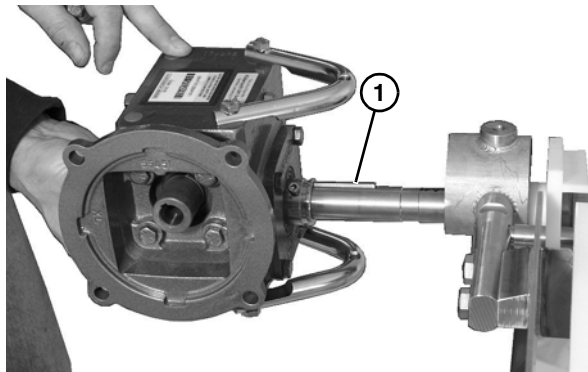

Figure 57
- Slide assembly off the bearing spindle (Figure 57).
- Remove the key (Figure 57, item 1).